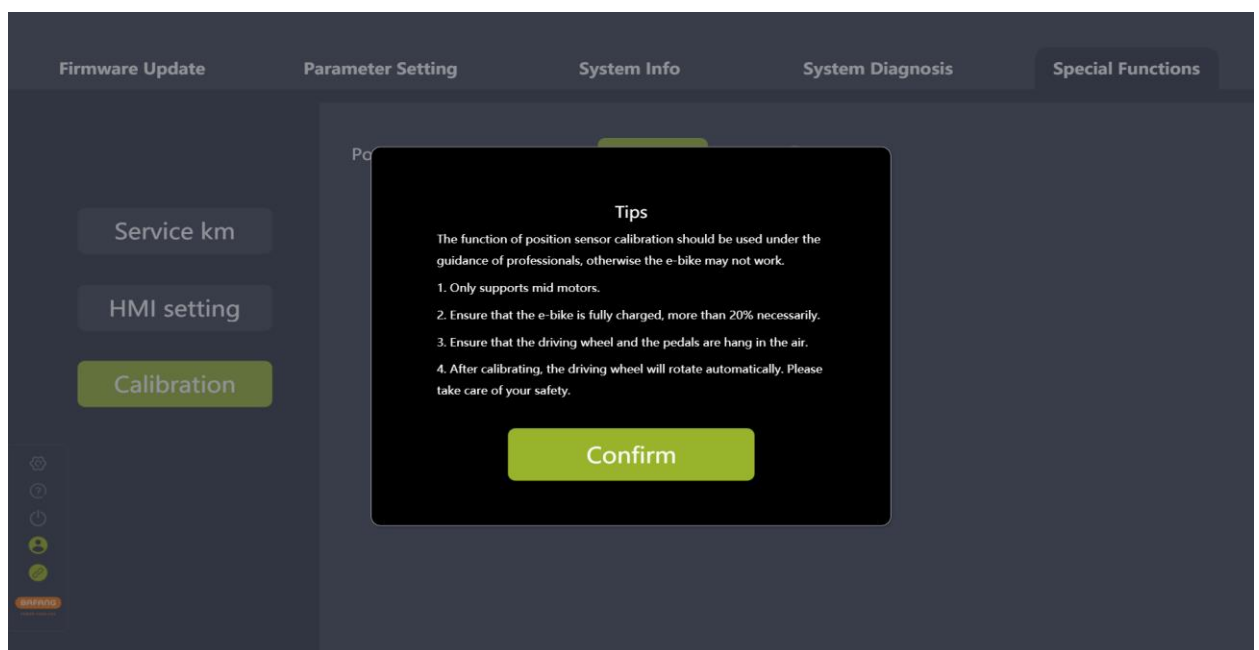

Fig. 8-6 Tips for position sensor calibration
- (3) Click the icon next to the icon “Start” to view the tips for position sensor calibration (Fig.8-6).